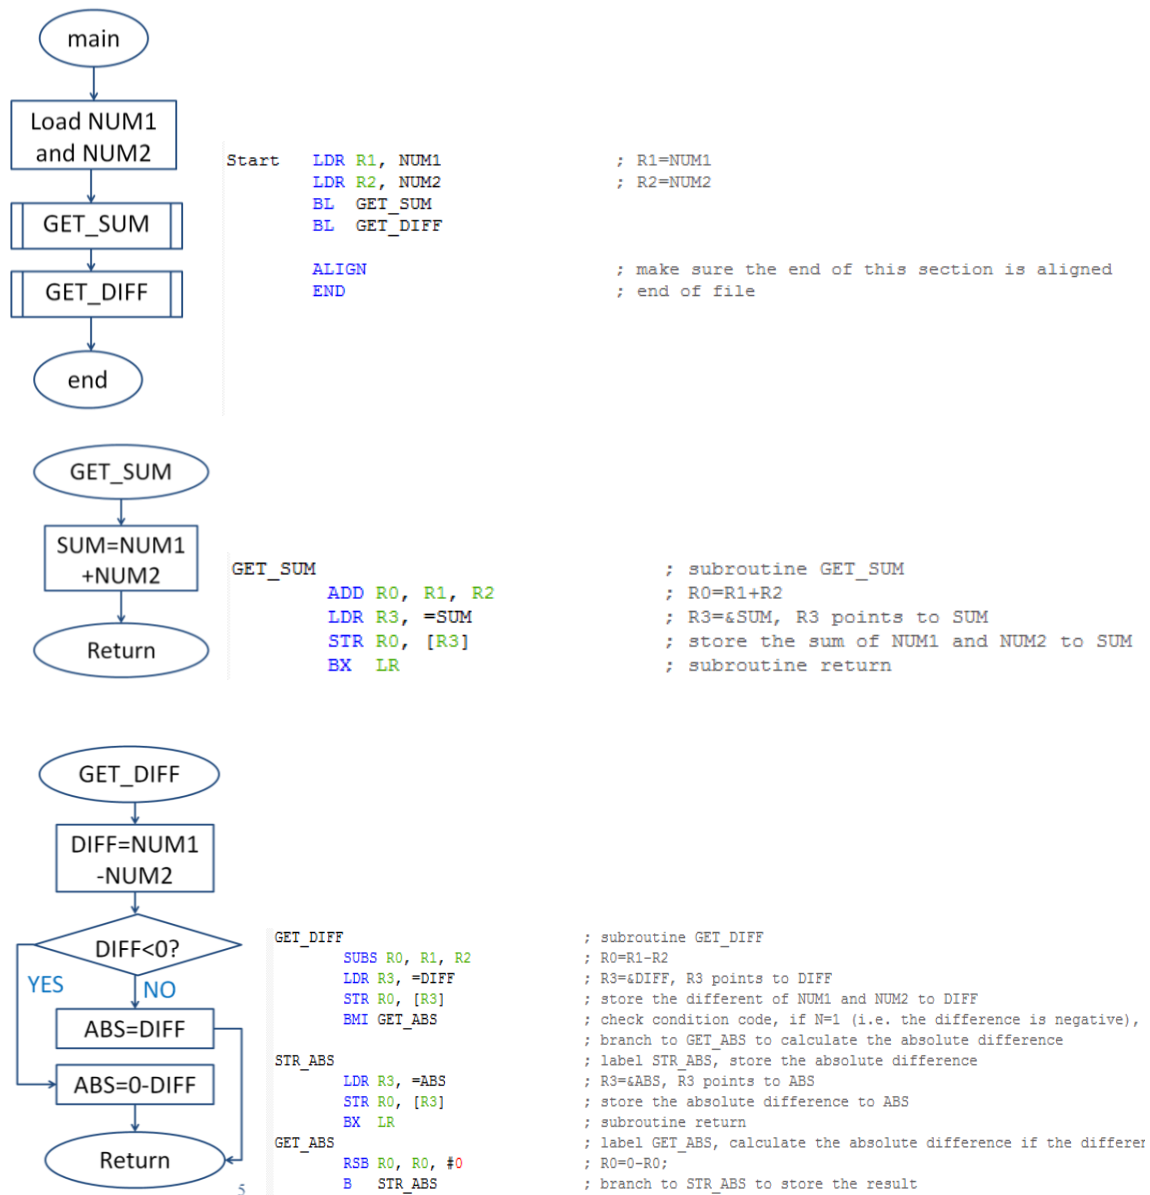

Figure 5
5. Understand the sample project *sim*. The sample project *sim* implements an assembly program that calculates the sum, difference, and absolute difference of two constant 32-bit signed numbers NUM1 and NUM2 and then stores the results in three defined variables SUM, DIFF, and ABS allocated in the RAM. Figure 5 shows the flowchart of the program. The program consists of a main routine and two subroutines GET_SUM and GET_DIFF. GET_SUM calculates the sum of NUM1 and NUM2 and stores the result into the variable SUM. GET_DIFF calculates the difference of NUM1 and NUM2 and stores the result into the variable DIFF. If DIFF is less than 0, the program calculates the absolute difference of NUM1 and NUM2 by calculating 0-DIFF, otherwise the absolute difference is equal to DIFF. The absolute difference is then stored in the variable ABS. If you are querying the usage of any instruction, you can search for the instruction (ctrl+F5) in the *Cortex-M3/M4F Instruction Set Technical User's Manual* or the *Thumb-2 Instruction Set Quick Reference Card* (both can be downloaded from Canvas->Reference Materials).